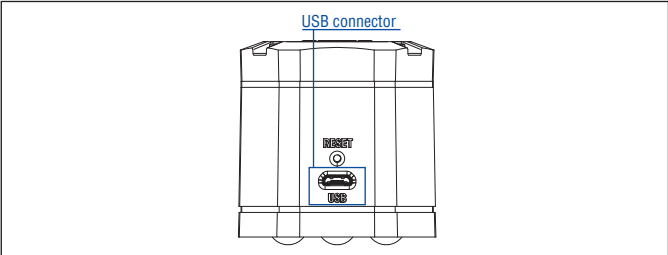

Fig. 84: USB port on the TempoLink® smart assistant
1. Connect the USB cable with the micro USB connector to the port labeled “USB” on the TempoLink® smart assistant (Fig. 84).